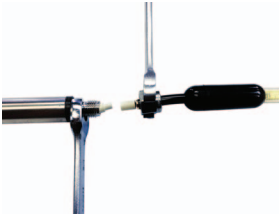

Figure 2
To remove the probe you will need a 1/2" and 9/16" wrench. Use the wrenches to fully loosen the nut closest to the link and gently separate the link from the probe. Care must be taken to avoid breaking/pinching the wires while removing or replacing the probe. Make sure connections are tight. (See Figure 2)
- Make sure the connection of the male and female connectors in the probe/link are connected tightly (See Figure 2).